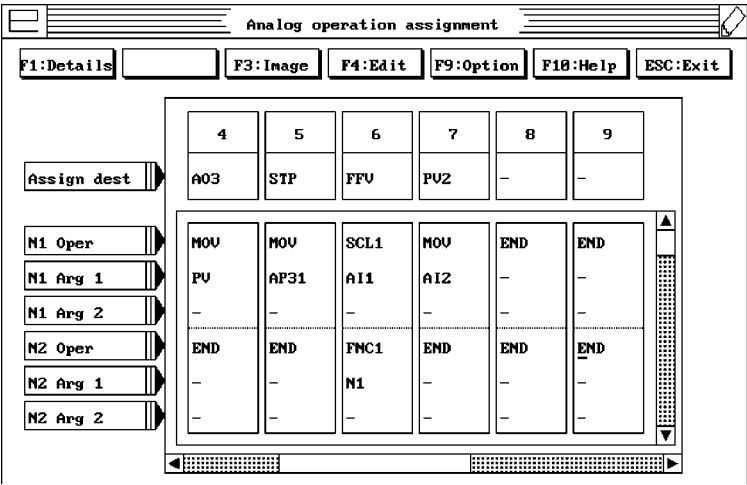

Figure 10
- 3. From within the **Analog operation assignment** menu (Figure 10), select **F1: Details**. The **Set Analog Operation Details** pop-up menu appears.